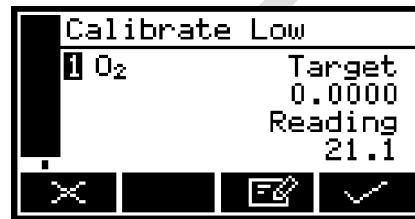

Figure 63 – The calibrate target value screen
4. Press the  soft key. The calibrate target value screen will then be shown (see Figure 63), identifying the target value and the current reading.